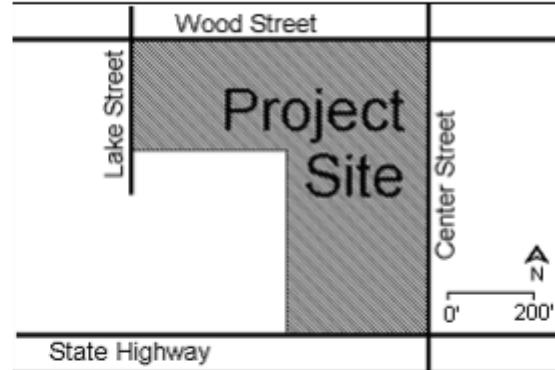

Figure 4-8: Location Map
1. Site location map, legal description of property, and scaled map showing property boundaries (Figure 4-8).